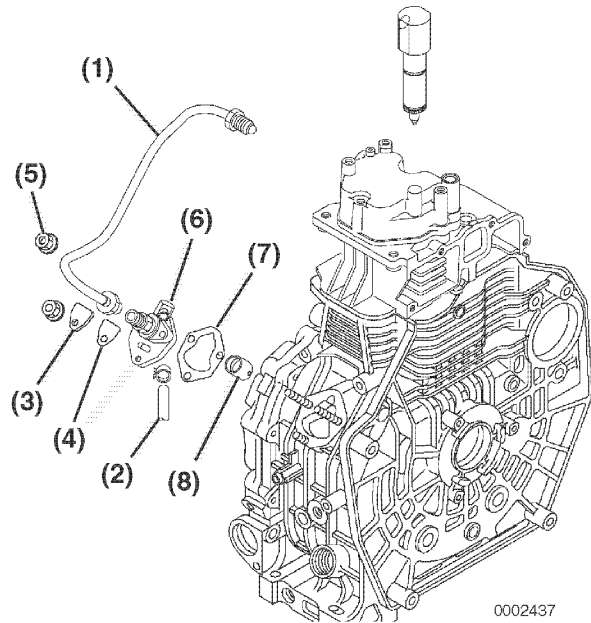

Figure 7-15
1. Clean the areas around the fuel injection pump (**Figure 7-15, (6)**) and fuel injector.
3. Remove the high-pressure fuel injection line (**Figure 7-15, (1)**). Use care not to bend the line.
4. Remove the fuel supply line (**Figure 7-15, (2)**).
6. Remove the three nuts (**Figure 7-15, (5)**) fastening the fuel injection pump into the cylinder block.
7. Remove the inspection cover (**Figure 7-15, (3)**) and gasket (**Figure 7-15, (4)**).
9. Remove the shim(s) (**Figure 7-15, (7)**). Use care not to bend or damage the shim(s).
10. Remove the fuel injection pump tappet (**Figure 7-15, (8)**) from the crankcase. The tappet may stay in the cylinder block. You can remove it with your finger. Inspect the face or roller end of the tappet for damage or abnormal wear. See *Tappet* on page 6-50.